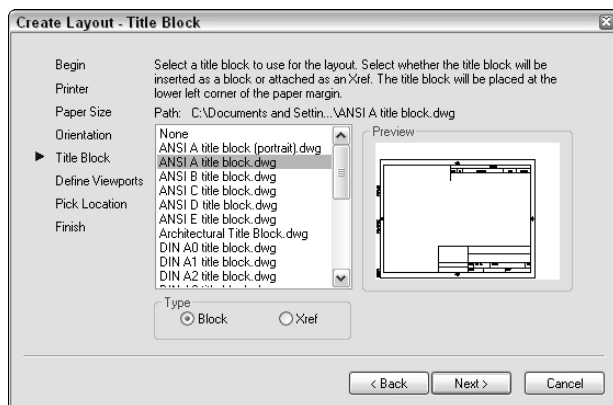

Figure 17-4: The Title Block screen of the Layout Wizard.
6. On the Title Block screen, shown in Figure 17-4, choose a title block if you want to add one. You can add it as a block (see Chapter 18) or as an *external reference*, or *xref* (see Chapter 19).